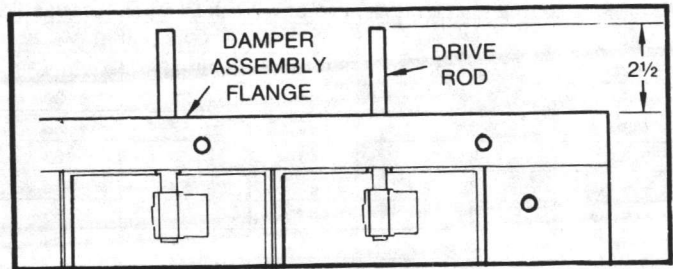

FIGURE 23 - Zone Damper Blade Assembly
On all Blow-Thru Multizone units, the zone damper drive rods are recessed to prevent damage during shipment. Before attaching ductwork, complete the following steps and then set the damper zones as instructed after this list. Refer to Figures 23 to 24B.
1. Loosen the damper rod clip screws and extend each drive rod 2-1/2 inches beyond the edge of the damper assembly flange. See Figure 23.